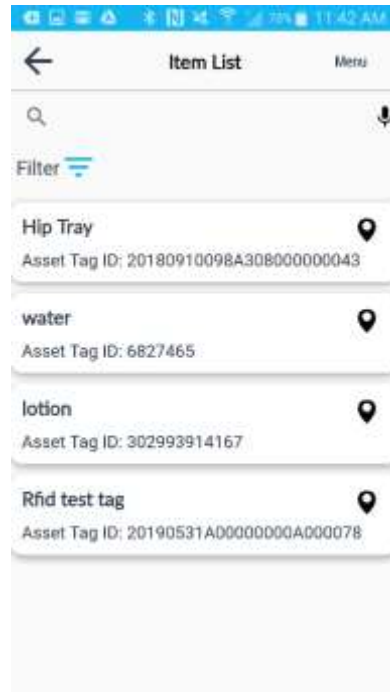

Figure 41
- To filter what you are searching for tap on Menu, then tap on Filter. **Fig. 41**